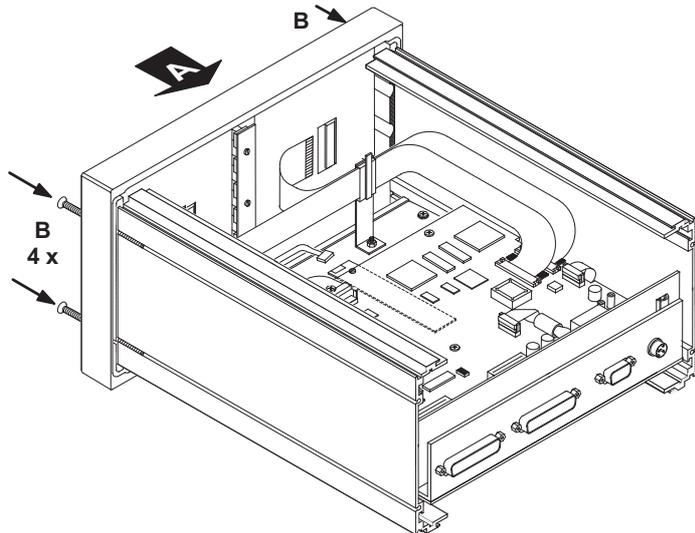

Fig. E 8-30: Mounting the front panel
8. When the silicone has dried upend the front panel back to its position at the frame (see Fig. E 8-30, A). Check that the display cable or the key pad cable is put inside without canting or clamping between front panel and any case panel. Then fix it with the four Philips screws (see Fig. E 8-30, B).